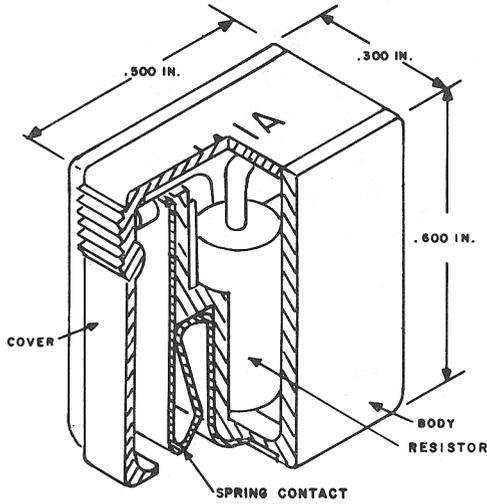

Fig. 5—141A Protector
**4.01** The 141A protector (Fig. 5) consists of a 68,000 ohm, 1/2-watt resistor in a blue molded assembly. The dimensions of the protector are 6/10-inch by 1/2-inch by 3/10-inch, and it is designed to be installed on 66-type connecting blocks having quick-connect terminals.